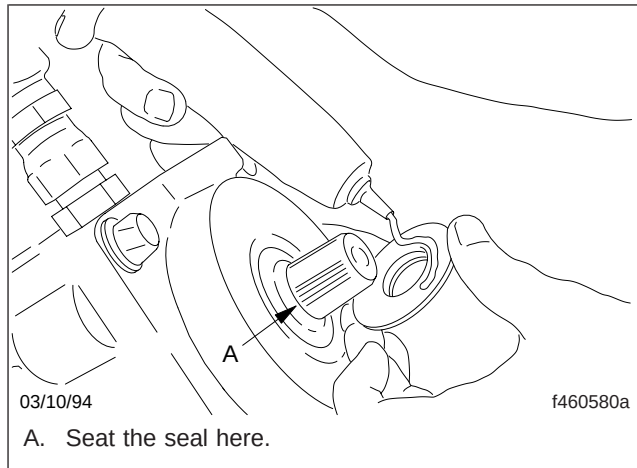

Fig. 7, Dirt and Water Seal Installation
- 17.2 Apply Exxon Polyrex EP2 grease to the new dirt and water seal and install it on the input shaft. See Fig. 7. Seat it in the groove behind the serrations and against the valve housing.